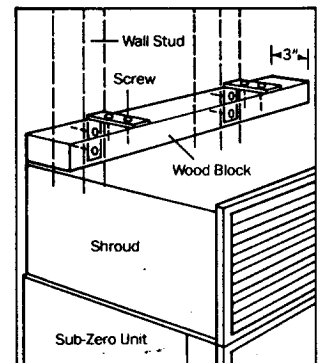

Figure 12
- Locate the proper height to clear the unit. The space along the top of the Sub-Zero between the unit and the bottom of the wood block **must not be greater** than 1/4 inch. See Figure 12.
- Position the wood block over the unit and secure it using the screws and "L" brackets provided. Make sure screws extend a minimum of 7/8 of an inch into each of the two wall studs. The wood block must extend a minimum of three inches over the unit. See Figure 12.